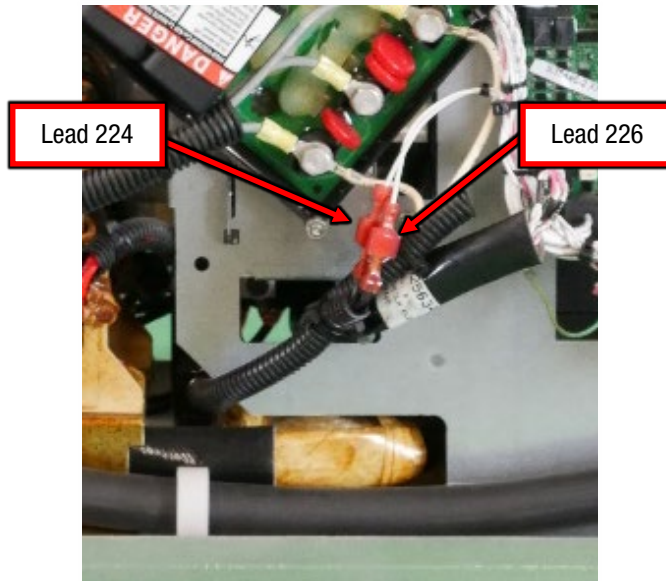

Figure F.2
- A.2. Label and disconnect the following connections, refer to Figure F.2.
- A.3. Perform the static measurements in Test Table 1, refer to Figure F.2 for test point Locations, set the switch “Condition(s)” as directed in Table 1. NOTE: MEASUREMENTS ARE TAKEN ON THE LEADS TOWARDS THE CHOKE.